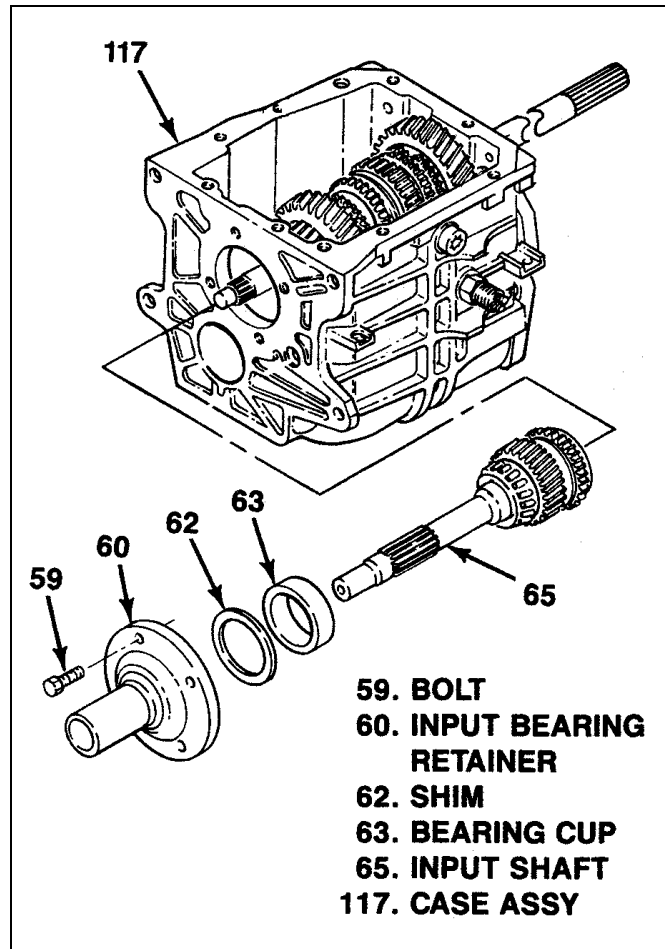
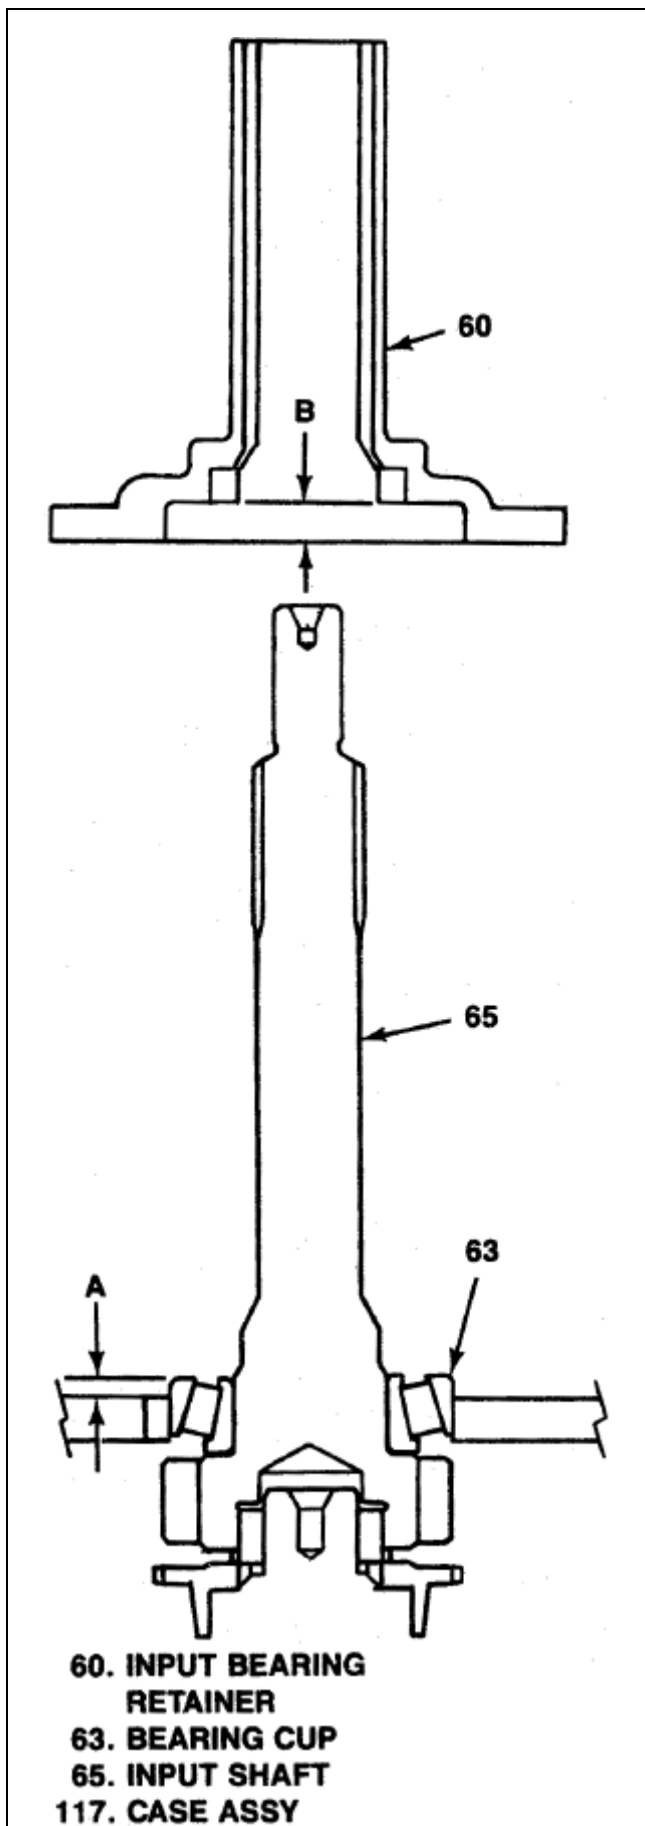

Figure 6-21. T5 WC Bearing Preload Adjustment
Figure 6-22. T5 WC Bearing Preload Measurements
6-19. ADJUSTMENT OF T5 WC INPUT/OUTPUT SHAFT BEARING PRELOAD. With both input bearing retainer and extension or adapter installed as described in preceding paragraphs, adjust input/output shaft bearing preload as follows (see figure 6-21 and 6-22):
- b. Remove bolts (59, figure 6-21) attaching input bearing retainer k(60) and remove bearing retainer.
- c. Using hand pressure, press down firmly on input shaft (65) and bearing cup (63) to ensure that power train parts in transmission are fully seated.
- d. Using suitable depth micrometer measure and record the following (see figure 6-22):
- 1. Dimension A, distance from top of bearing cup (63) to mounting face on transmission case (117) for input bearing retainer (60).
- 2. Dimension B, distance from mounting face on input bearing retainer (60) to bearing cup contact surface.